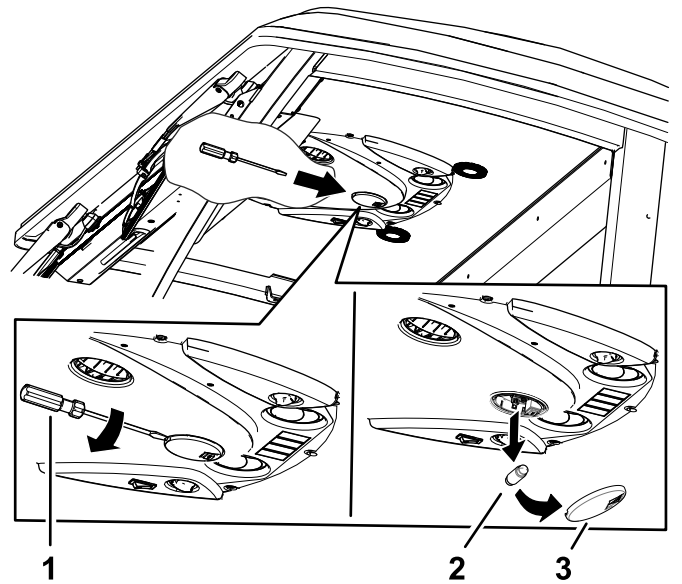

Figure 85
2. Remove the bulb from the light base (Figure 85).
1. Use a screwdriver to remove the light lens from the control panel. (Figure 85).